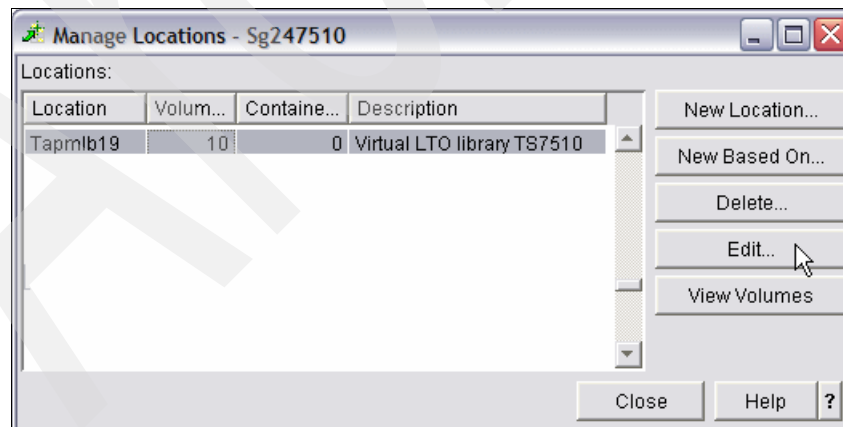

Figure 6-11 Manage Locations
2. In the window shown in Figure 6-11, select your tape library. Click **Edit**.